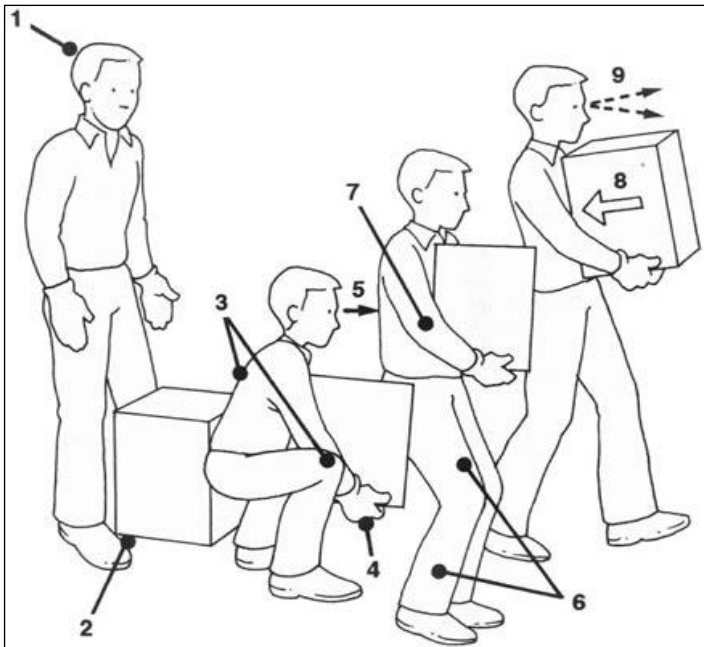

Figure 1
- When lifting always use the correct kinetic method of lifting as shown in **figure 1**;